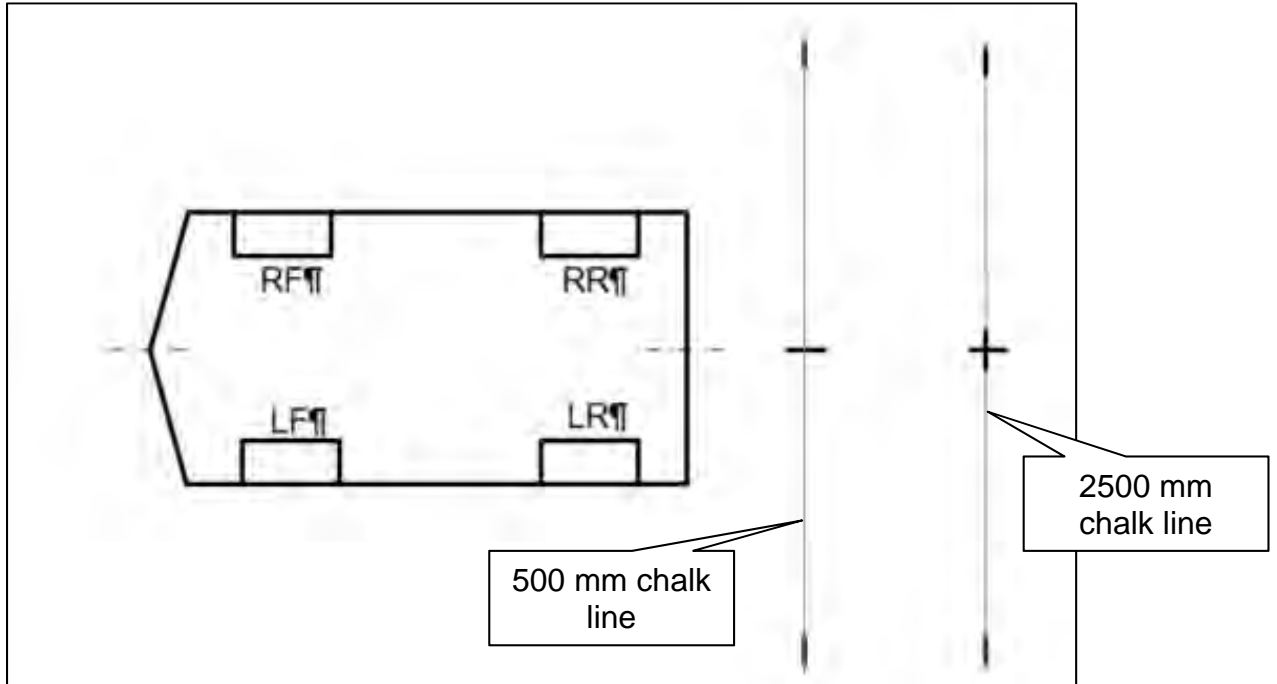
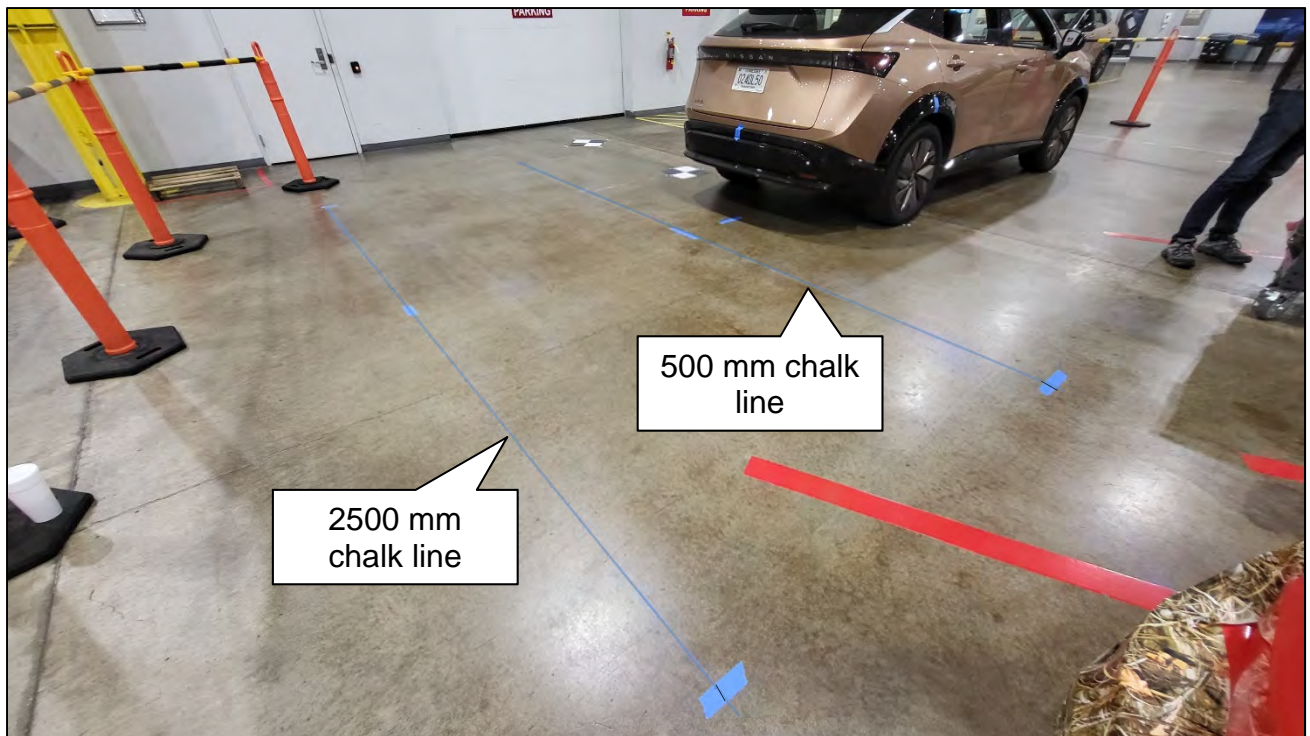

Figure 73
Figure 74
53. Use a chalk line tool to make a line between the 500 mm and 2500 mm marks, as shown in Figure 73 and Figure 74.